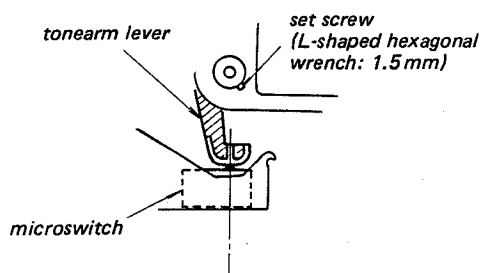

Fig. 3-8.
3. Install the tonearm lever as shown in Fig. 3-8.